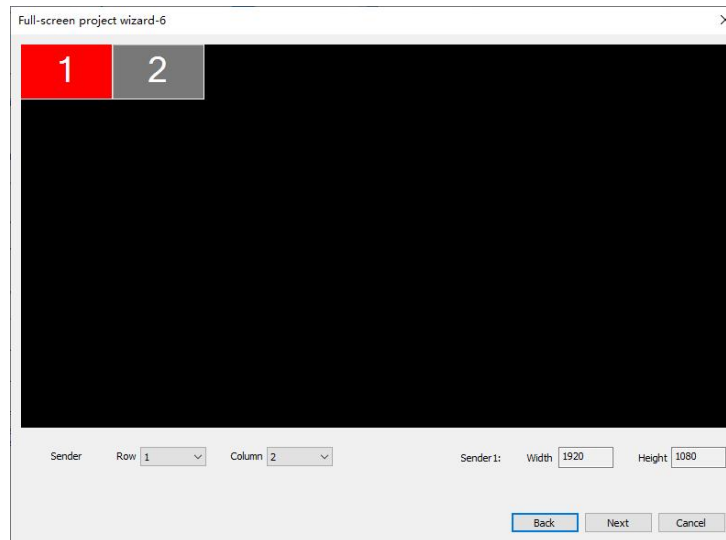

Fig.4-17 Sender layout settings
- When Calibration Pro has detected more than 1 sender, you will need to set the sender layout before continuing the wizard-6. See Figure 4-17.